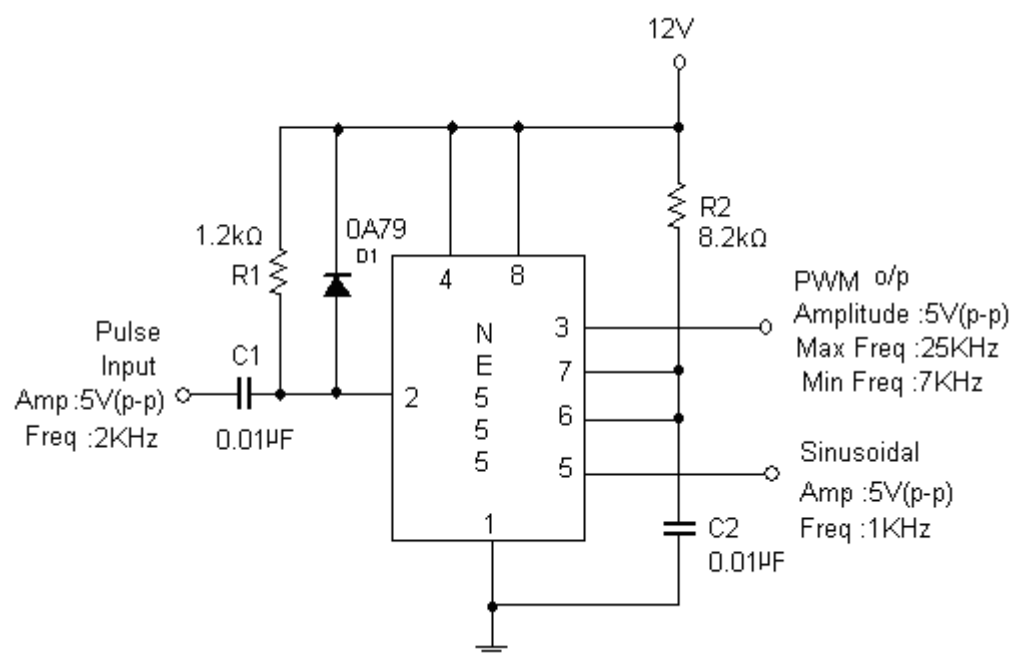

Fig: 1 Pulse Width Modulation Circuit
1. Connect the circuit as per circuit diagram shown in fig 1.